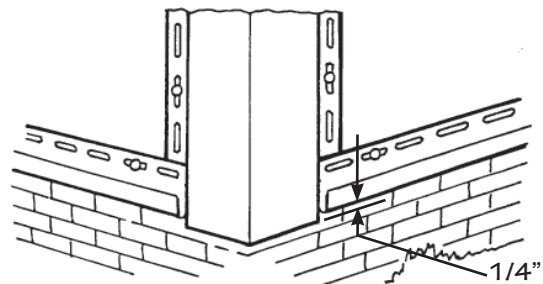
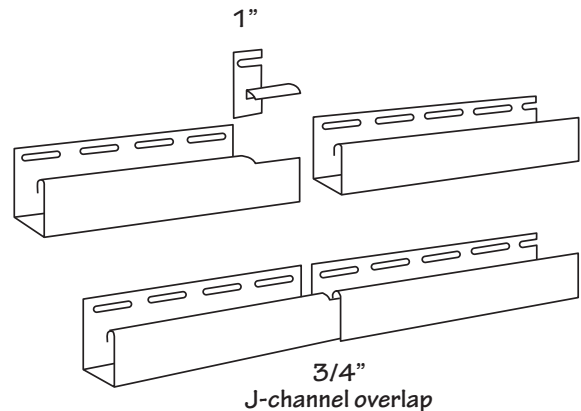

Figure 50.
Figure 51.
- Fasten every 8" to 12" (203mm to 305mm). Use the center of the nail slots. All vinyl should be fastened securely but not tightly. Sideways movement should not be restricted. Leave 1/4" (6.4mm) gaps at the corner posts (Fig. 50). Where lengths adjoin, trim the nailing flange 1" (25.4mm) and overlap 3/4" (19mm) to produce a neat joint (Fig. 51).